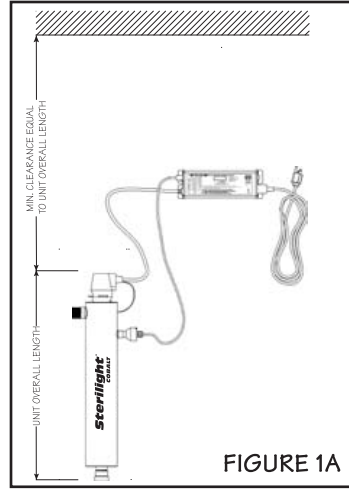

FIGURE 1A
**2.** Select a suitable location for the disinfection system and its related components. As it is recommended to install a ground fault protected circuit (GFCI), make sure that this is taken into consideration prior to any installation. The system can either be installed vertically (inlet port at the bottom) (Figure 1A), or horizontally (Figure 1B), however the vertical installation is the most preferred method. When selecting a mounting location, you must also leave enough space to allow for the removal of the UV lamp and/or quartz sleeve (typically leave a space equal to the size of the reactor chamber itself). (Note: Installation drawings show Cobalt "PLUS" system with UV sensor for representation purpose only)